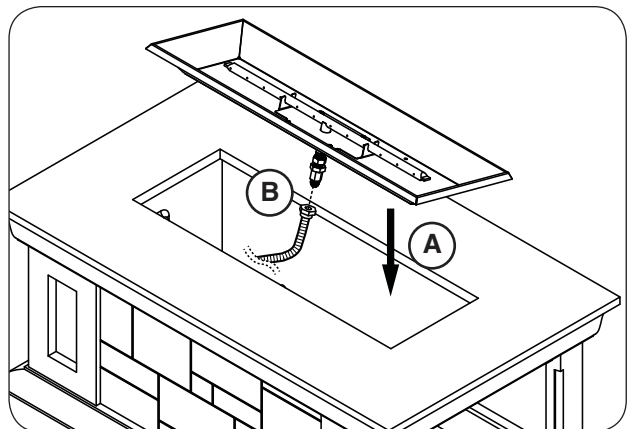

Fig. 21-3 Place burner and connect flex
3. Drop the burner assembly into the opening in the center of the firetable top (see Fig. 21-3, A).
4. Locate the flex connector (marked **OUT**) that is coming off the valve assembly. Route it to the connection found on the underside of the burner assembly and connect. Tighten securely. See Fig. 21-3, B.